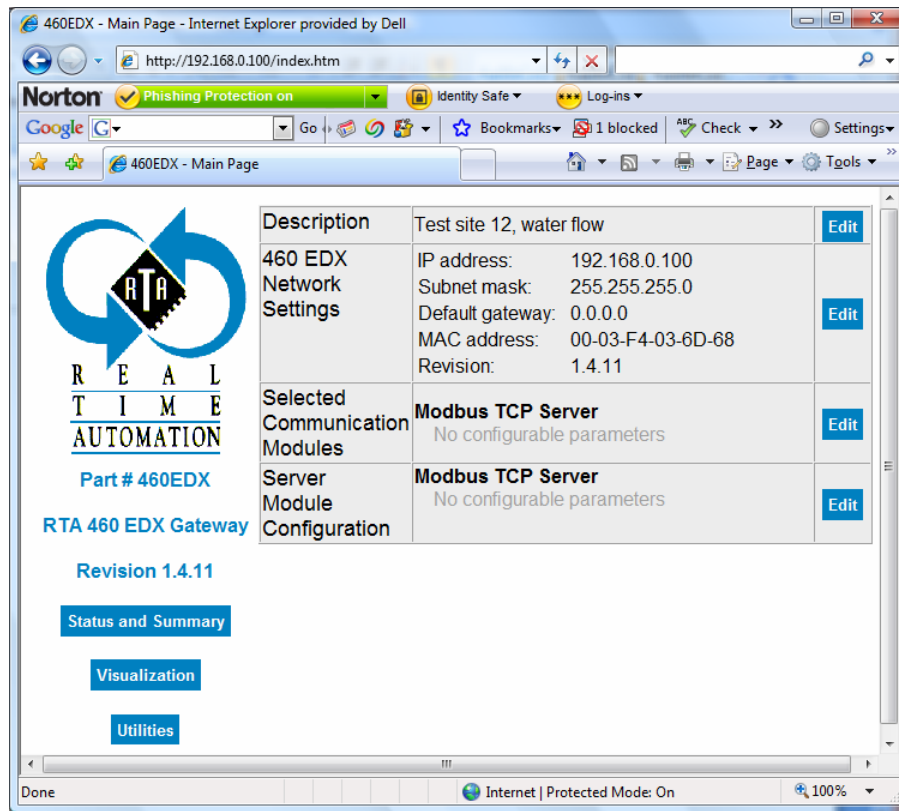

Figure 2-27 Modbus TCP Server Configuration
5. Click on the Return to Main button. The RTA 460 Gateway Main Page displays with the updated Modbus TCP Server information. See Figure 2-27.